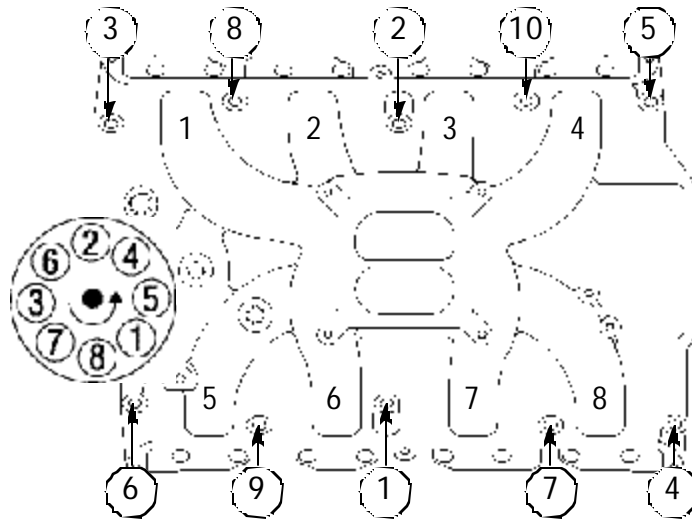

Figure 1 - 326-428 FE Ford Torque Sequence
- 5) Install the intake manifold and hold-down bolts. Torque all of the manifold bolts in two steps by the sequence shown in Figure 1 to 25 ft/lbs. While tightening the intake manifold bolts, the distributor should be installed in its proper position. Care should be taken to make sure that the distributor is centered in the hole in the intake manifold and that it can be freely removed and reinstalled after the intake manifold bolts are tightened.